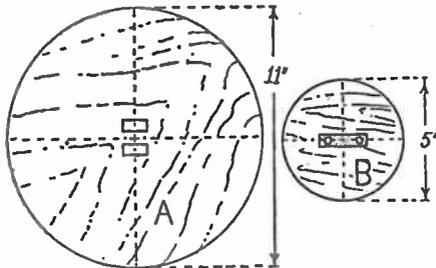

Fig. 2—Marking off the base and platform
Details of base and platform are given in Fig. 2. By marking a broken line across the discs at the widest point and a similar one at right angles, positioning of the slots in the base (A) and the screw holes in the platform (B) is simplified. The base is 1in. thick; its slots lie ½in. apart and are 1in. long by